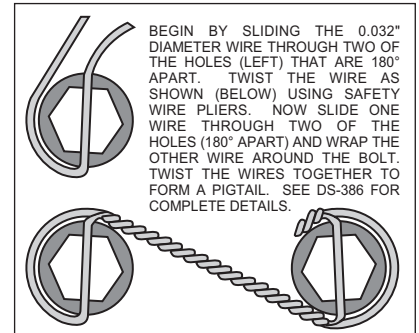

Figure 6. Safety Wire Diagram
- With the slot pointing upward and the mounting ears pointing towards the rear of the vehicle, install the caliper mounting bracket (1) to the axle housing flange using the stock Original Equipment Manufacturer (OEM) bolts and nuts. Stock OEM hex nuts that retain the bracket (1) should be on the wheel side of the bracket. Apply red *Loctite*® 271 to the stock OEM bolt threads and torque to OEM specifications. **NOTE:** Some brackets act as the bearing retainer, while others help locate the bearing in the axle housing flange. Make sure the heads of the caliper mounting bracket insert nuts are **FACING OUTWARD TOWARDS THE WHEEL**.
- The rotor (3) has two sides. A flat side and an inset side. Bolt hat (2) to flat side of rotor (3) using lock washers (4) and bolts (5). Torque bolts (5) to 180 **in-lb**. Safety wire bolts (5) using standard 0.032 inch diameter stainless steel safety wire as shown in Figure 6. Please refer to Wilwood's data sheet DS-386 (available at www.wilwood.com/pdf/ds386.pdf) for complete safety wire installation instructions.
- Align the correct hole pattern in the hat (2) with the stud pattern on the axle flange. **NOTE:** Some OEM and after market axles come with stud sizes larger than 0.50" diameter. Verify stud size and have a qualified machine shop drill the hats to the correct size. Slide the hat/rotor assembly (2 and 3) over the wheel studs and against the axle flange face.
- NOTE:** Please reference the caution statement at the beginning of the assembly instructions. **WITH THE BLEED SCREWS POINTING UP**, mount the caliper (6) over the rotor (3) and onto the caliper mounting bracket (1) using the lock washers (7) and mounting bolts (8). View the rotor through the top opening of the caliper. The rotor should be aligned in the center of the caliper. If not, adjust the caliper by using 0.032 inch shims (9) by placing them between the caliper mounting bracket (1) and the caliper (6). Apply red *Loctite*® 271 to the mounting bolt threads (8) and torque to 30 ft-lb. Safety wire the caliper mounting bolts (8).
- Position the Wilwood disc brake pads (10) into the caliper (6) and fasten with cotter pin (11). Steel backing plate side of brake pad should face the caliper pistons.